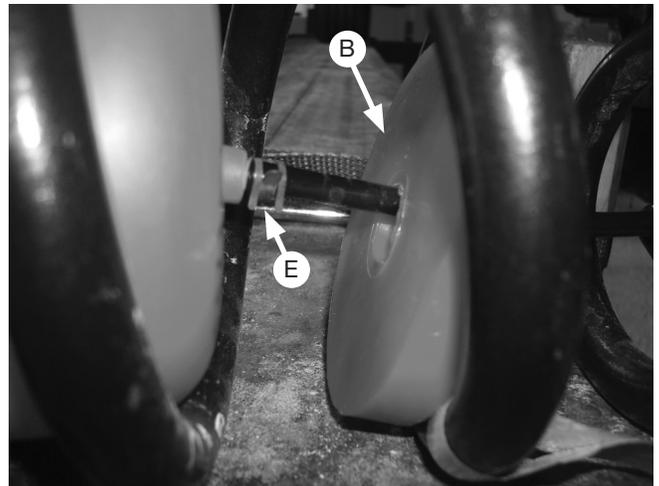

Fig. 18
17. Route the air line from the lower spring seat, through the bottom of the coil spring, and the lower spacer (B), then attach to the barbed stem on the air spring using the air line clamp (E) (fig. 18). Make sure the air line covers all the barbs on the stem.